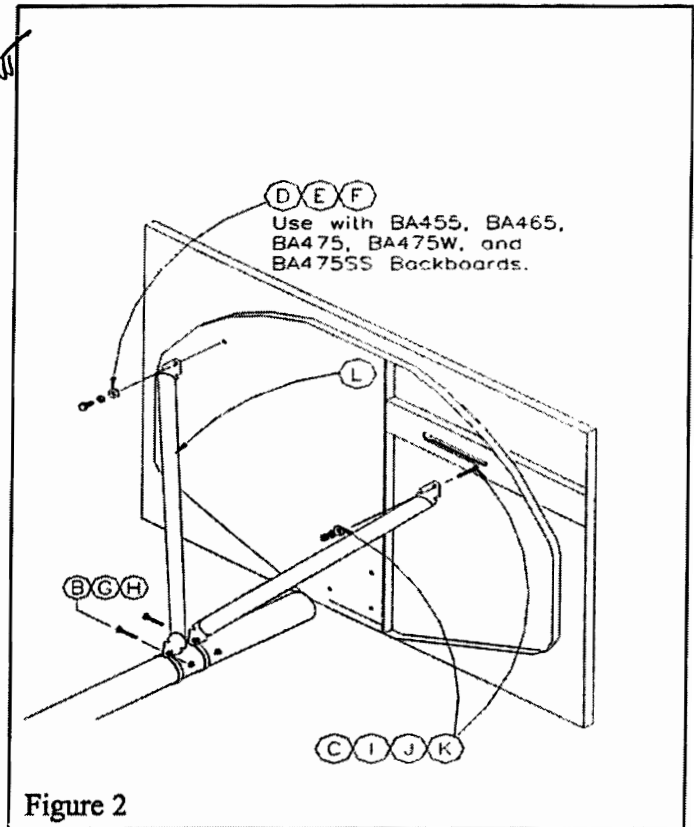

Figure 2
4. Clean excess concrete from pole. Level the pole in the hole and allow the footing to cure for seven (7) days. Only after the concrete has cured for seven days should you proceed.
5. Seven days have passed. Slide the two 5 9/16" *Band Clamps* (B) on to the gooseneck portion of the pole. Assemble rim and backboard to the *Backboard Mounting Bracket* (A), then attach the *Backboard Mounting Bracket* (A) to the end of the pole with 1/2" *Square Head Set Screws* (M) making sure that the rim and the backboard are level. Fasten *Backboard Braces* (L) to the backboard with 7/16" X 2" *Carriage Bolts* (C), 7/16" *Flat Washers* (I), 7/16" *Lock Washers* (J) and 7/16" *Hex Nuts* (K) or with 3/8" X 1" *Hex Bolt* (D), 3/8" *Flat Washers* (E) and 3/8" *Lock Washers* (F) depending upon the style of backboard. See **Figures 2 and 3**.